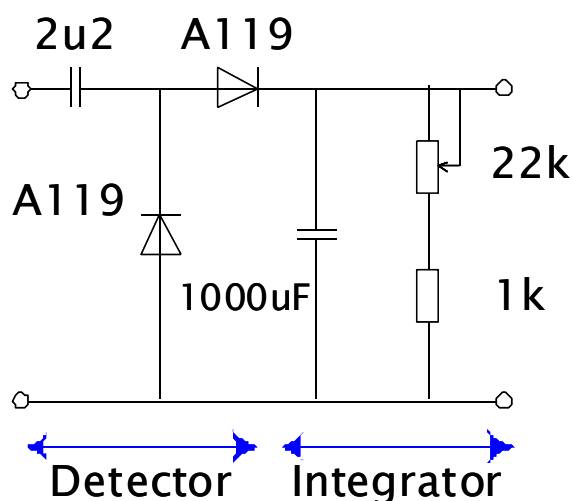

Fig 3 The Detector and Integrator
Output is taken from the external loudspeaker socket (a 3.5mm miniature jack) on the rear of the R-75 and fed into a simple voltage-doubler and integration circuit with a time constant variable from 1 second to 23 seconds.(Fig. 3). The receiver volume determines the 'drive' level to the detector unit.
Current thinking about the origin of extra-galactic high-energy events such as a GRB or within galaxy magnetar X-Ray transients, appears to be focused on progenitors of either neutron stars, perhaps in a binary system, or the collapse of massive young star, which creates a supernovae (Shilling 2002). Supernova GRB or X-ray transients are the result of massive O and B type star collapse, with subsequent rapid spin-up of the resulting remnant neutron star. These stellar 'collapsars' create a distant supernova remnant, which in turn create an incredible amount of energy (Ward-Thompson 2002). The magnetar type event is caused by a massive rotating neutron star, which emits high energy X-rays because of a reduction in angular momentum, causing a 'star quake' (Kouveliotou 2005) (Figure 3).
Figure 3 making a neutron star – and a magnetar – starts (1) with a massive star that has burned up all of its fuel, then (2) collapses and causes a massive explosion, the supernova, which blows off the outer layers and (3) compresses the core. http://science.nasa.gov/newhome/headlines/ast19jul99_1.htm